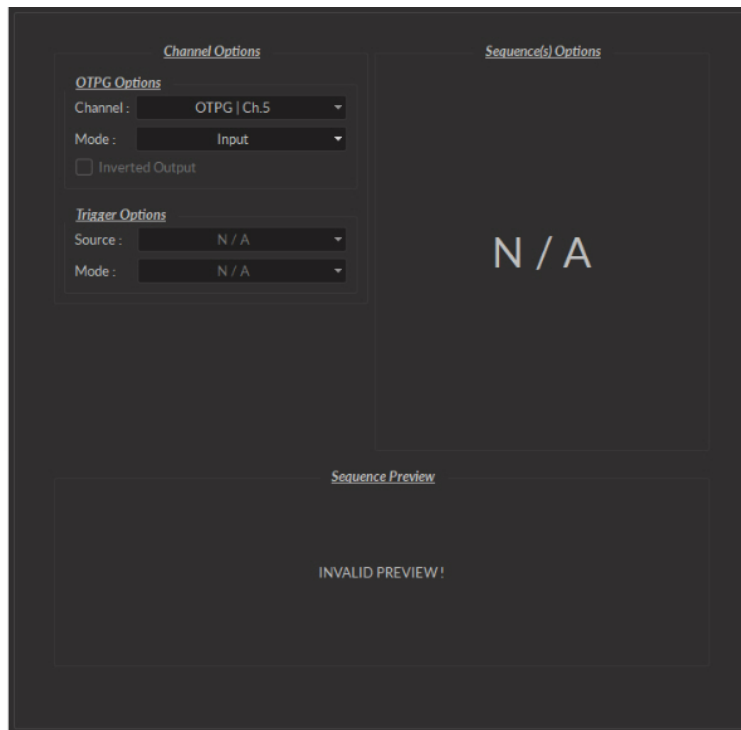

Figure 3.66: Channels Configuration, Input Interface
- The **Input** mode (Fig 3.66) records a signal as long as there is a high TTL signal on the chosen console channel. The channel can then be used as a trigger source for all the other channels of the console. No **Sequence Options** or **Sequence Previews** are available for this mode.